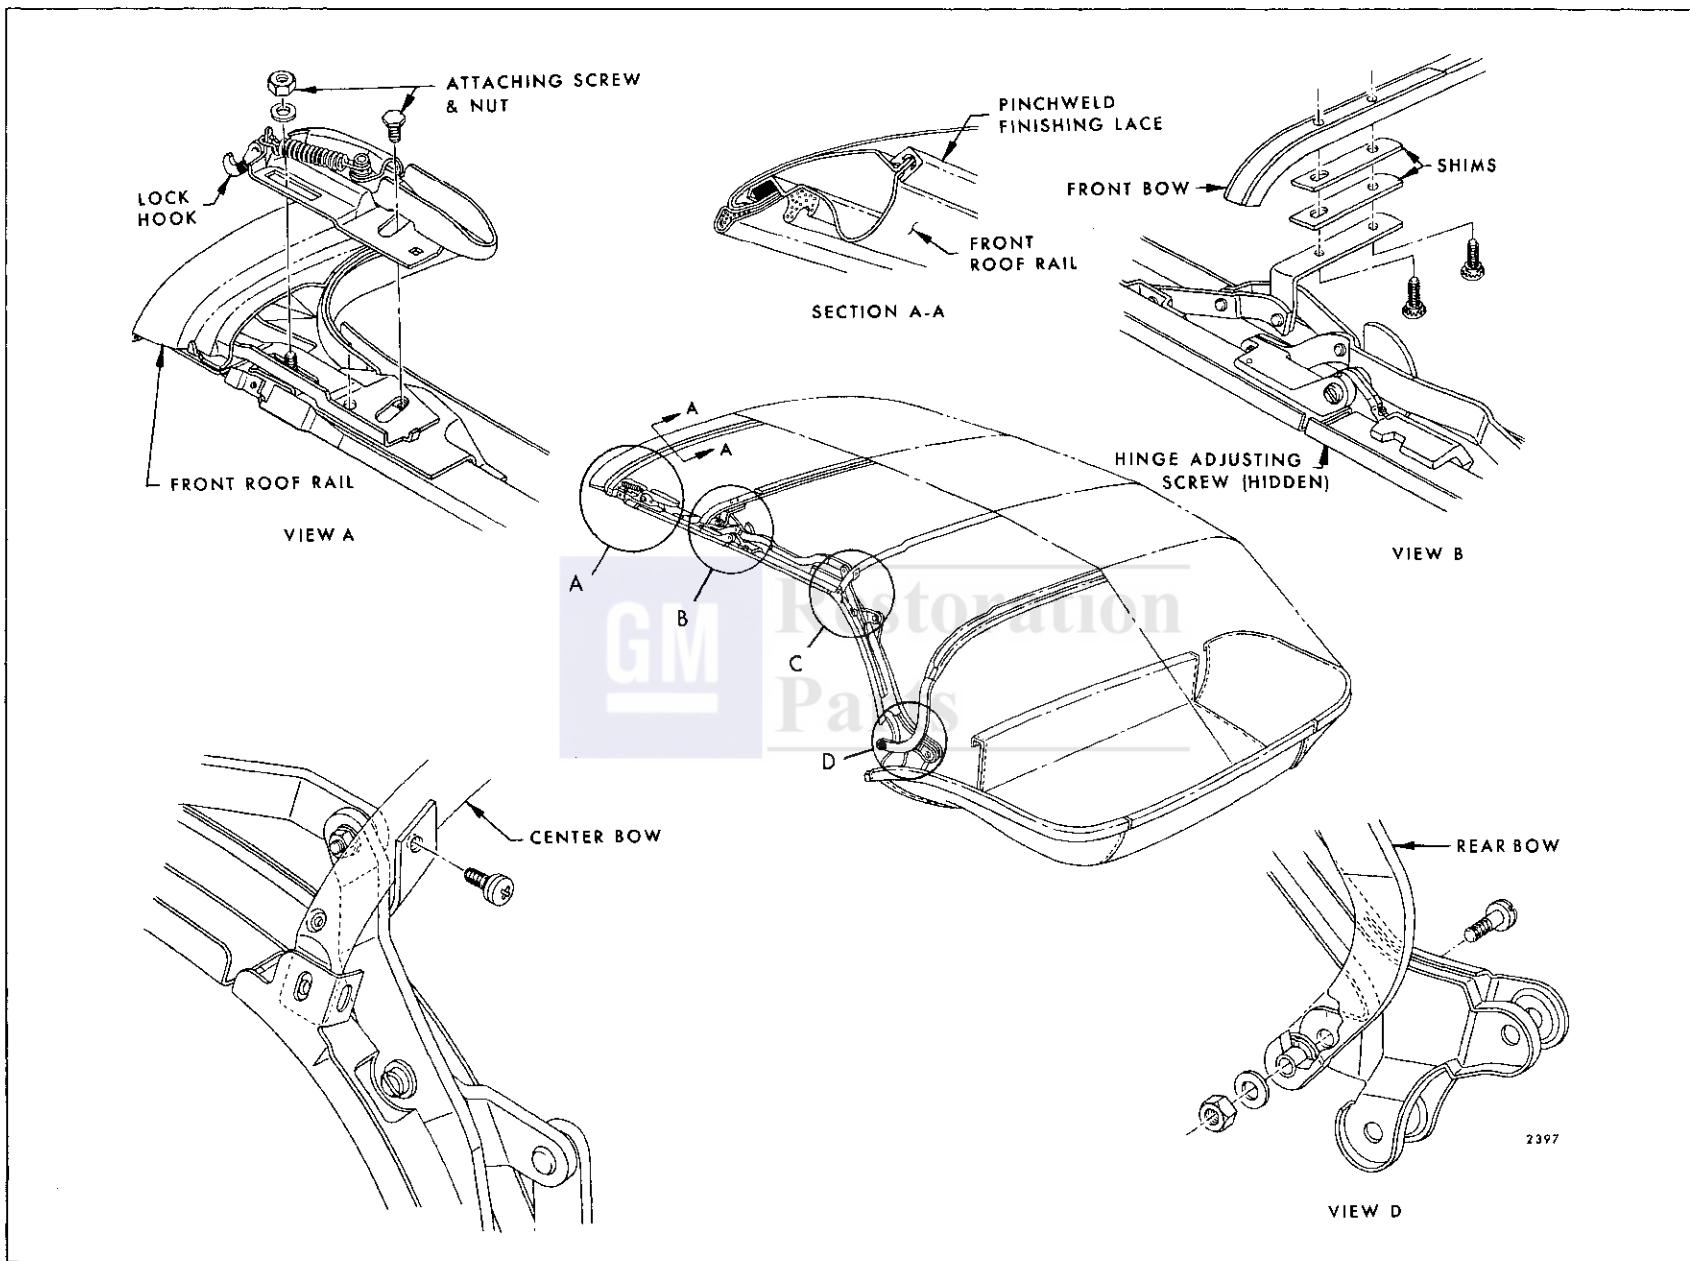

Fig. 13-83—"F" Body Folding Top Adjustments
2. Loosen lock assembly attaching screws on side roof front rail and adjust front roof rail fore or aft as required. Repeat on opposite side if necessary. (See View "A", Fig. 13-83.)
2. With top in a half-open position, remove lock attaching screws; then remove lock assembly from front roof rail. (See View "A", Fig. 13-83.)